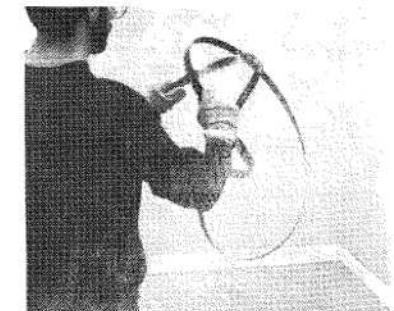

FIGURE B-3. BLADE COILING STEP #3.
3. See Figure B-3. Bring your hands together. The blade will form three loops. Snap the bottom loop upward and catch the three-loop coil in your hands.